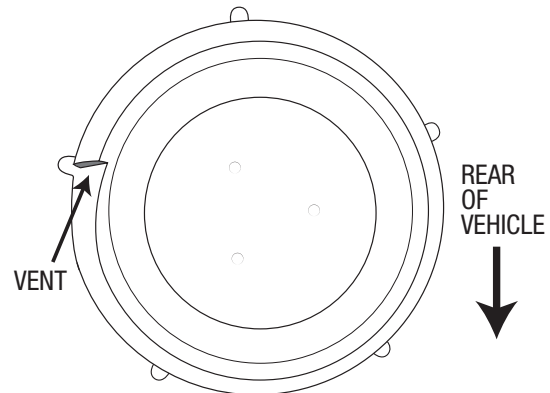

Figure 24
2. Install the High Dust Filtration System. This must be installed with the vent to the rear of the vehicle (Fig. 24).